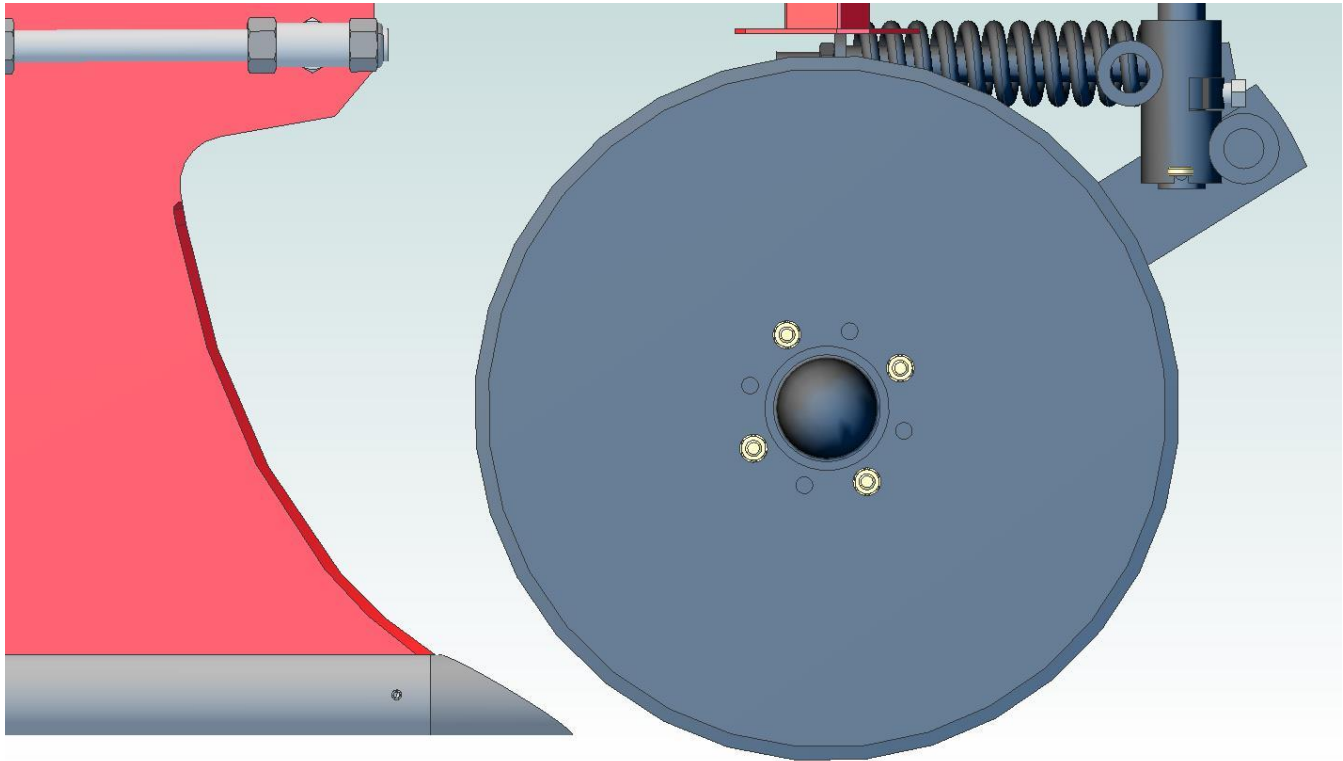

Figure 14: Coultter blade depth for treatments in alfalfa
- Adjust the coultter as deep as possible while keeping the bottom of the coultter blade at minimum ¼” or so below the bottom edge of the torpedo tube as shown in Figure 14.